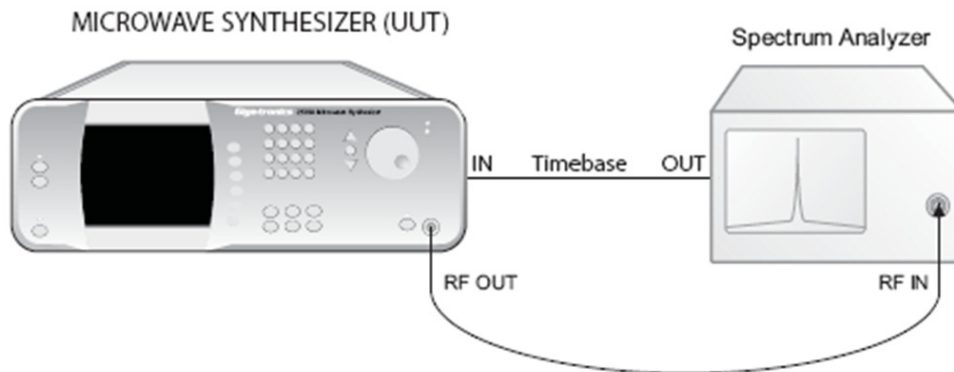

Figure 49: Spectral Purity Test Setup
1.	Connect the equipment as shown in Figure 49; <ul style="list-style-type: none"> <li>Connect the timebase output from the spectrum analyzer to the EXT REF IN connector on the rear of the 2500B. See Figure 6 on page 19 for the location of the connector and the electrical specifications of the external timebase.</li> <li>Connect the 2500B RF Output to the RF input using coaxial cabling and adapters as necessary.</li> </ul>